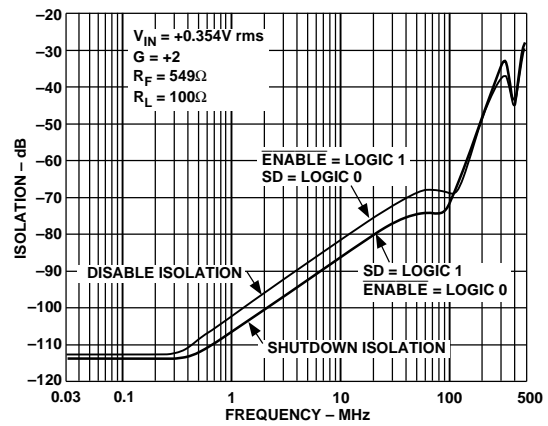

Figure 14. AD8174R Disable and Shutdown Isolation vs. Frequency
- AD8174 only. Shutdown (SD) pin is grounded. Mux is disabled, (i.e., $\overline{\text{ENABLE}} = \text{Logic 1}$) and all inputs are driven simultaneously with $V_{IN} = 0.354$ V rms. Output is monitored at $f = 5$ MHz and 30 MHz; $R_L = 100$ Ω. In this mode, the output impedance of the disabled mux is very high (typ 10 MΩ), and the signal couples across the package; the load impedance and the feedback network determine the crosstalk. For instance, in a closed-loop gain of +1, $r_{OUT} \cong 10$ MΩ, in a gain of +2 ($R_F = R_G = 549$ Ω), $r_{OUT} = 1.1$ kΩ (see Figure 14).
- AD8174 only. $\overline{\text{ENABLE}}$ pin is grounded. Mux is shutdown (i.e., SD = Logic 1), and all inputs are driven simultaneously with $V_{IN} = 0.354$ V rms. Output is monitored at $f = 5$ MHz and 30 MHz; $R_L = 100$ Ω. (see Figure 14). The mux output impedance in shutdown mode is the same as the disabled mux output impedance.